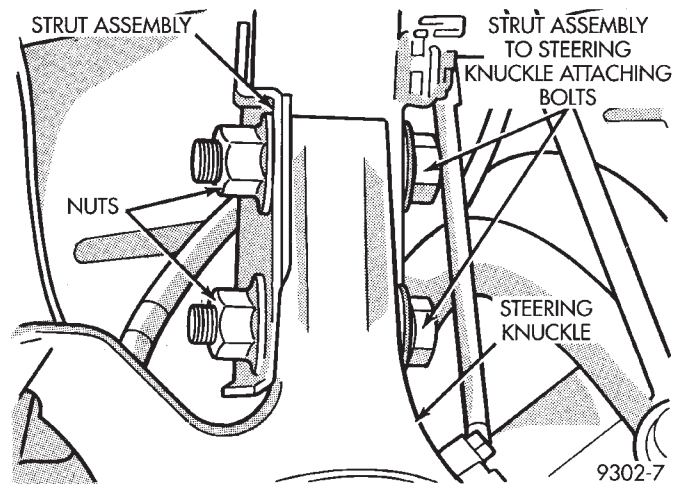

Fig. 5 Strut To Steering Knuckle Attaching Bolts
(8) Remove the top and bottom bolt, (Fig. 5) attaching the strut to the steering knuckle. Separate the steering knuckle from the strut and position steering knuckle so it is out of the way of the strut.
(10) Install the steering knuckle in the strut bracket.
(11) Loosely install the bolts (Fig. 5) attaching the strut to the steering knuckle.
- (15) Install the wheel and tire assemblies.
- (16) Lower vehicle until the full weight of the vehicle is supported by the vehicle's suspension.
- (17) Correctly jounce the front and rear of vehicle an equal amount of times.
- (18) Adjust the front camber to the preferred setting by pushing in or pulling outward on the top of the wheel and tire as required. When camber is correctly set, tighten the upper and lower attaching bolt (Fig. 5) enough to not allow the steering knuckle to move in the strut bracket. Again jounce front and rear of vehicle an equal amount of times and verify front camber setting. See Alignment Specifications in this group of the service manual for required specifications.
- (19) When front camber is correctly set, torque both front strut to steering knuckle attaching bolts to 170 N·m (125 ft. lbs.).
- (20) Check the front wheel Toe settings. If Toe readings obtained are not within the required specification range, adjust Toe to meet the preferred specification setting. Adjust front Toe to the preferred the Toe specification using the Toe setting procedure.
- (21) Road test the vehicle. If vehicle still drifts or leads, repeat the camber adjustment procedure but bias the cross car camber setting opposite of the direction in which the vehicle has the tendency to lead. **For example, if the vehicle leads left, compensate by setting left front camber to 0.0 degrees and right front camber to + 0.6 degrees. The cross car camber is now at + 0.6 degrees, the maximum allowed per the alignment specification.**